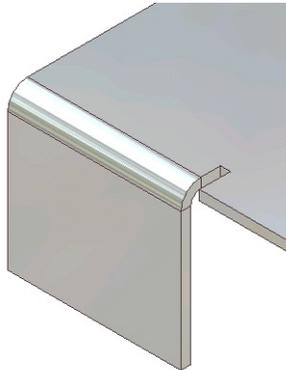
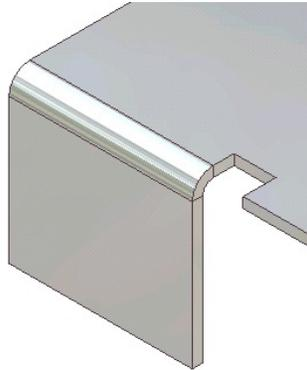

Figure 15-10 Sheet metal with relief width of 1 mm
Figure 15-11 Sheet metal with relief width of 4 mm
Relief Width (A): This edit box is used to enter the value of the width of the relief. The default value of the relief width is equal to the thickness of the sheet. You can enter the value of the relief width in this edit box. Figure 15-10 shows a sheet metal component with a relief width of 1 mm and Figure 15-11 shows a sheet metal component with a relief width of 4 mm.